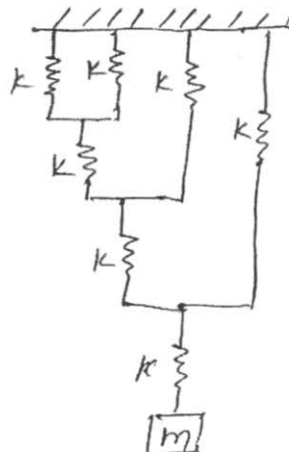

Fig. 8(a)
8. a) Find the natural Frequency of the system shown in Fig. 8(a).